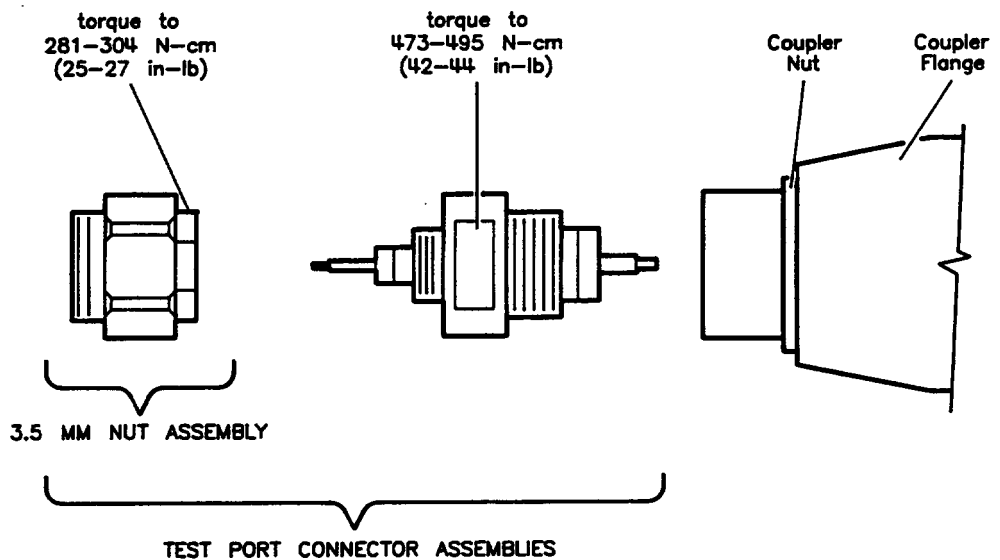

Figure 5-8 Exploded View of the 3.5 mm Port Connector
Refer to Figure 5-8 and the following text to replace or repair these 3.5 mm test port connectors.
2. Replace with a new test port connector assembly using a 5/8 inch torque wrench to the limits called out in Figure 5-8.
3. Torque with a 9/16 inch torque wrench to the limits set in Figure 5-8.
(13) Power Transformer